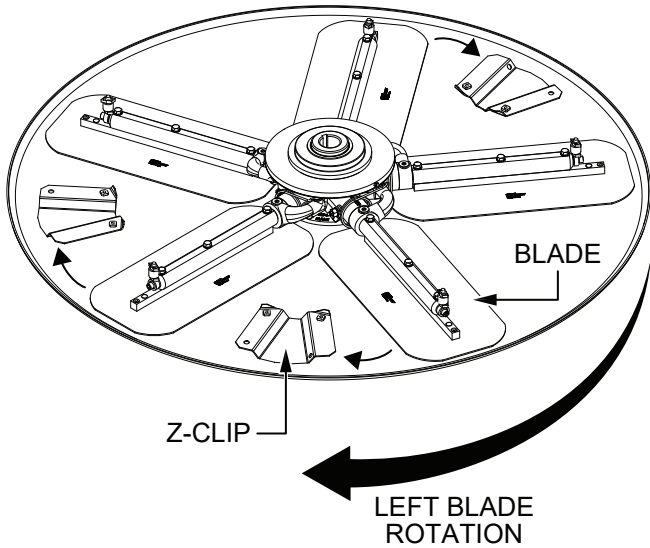

Figure 88. Blade Rotation
3. Rotate the blades into position under the Z-clips (Figure 88). Make sure the blades are rotated in the same direction as when the machine is in operation, or use the engine to rotate the blades into position.